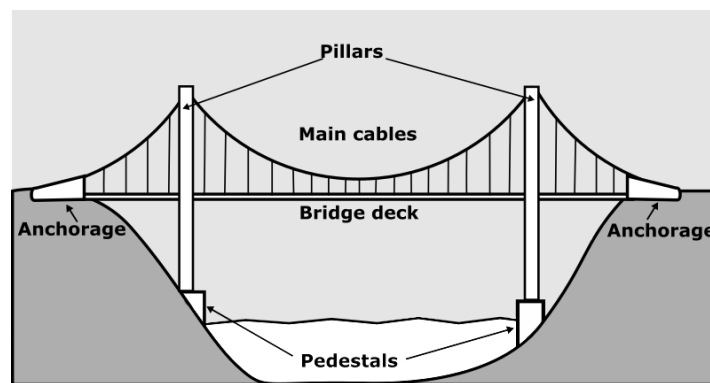

Figure 8: Bridge Structure
a. Figure 8 below, shows a suspension bridge structure.